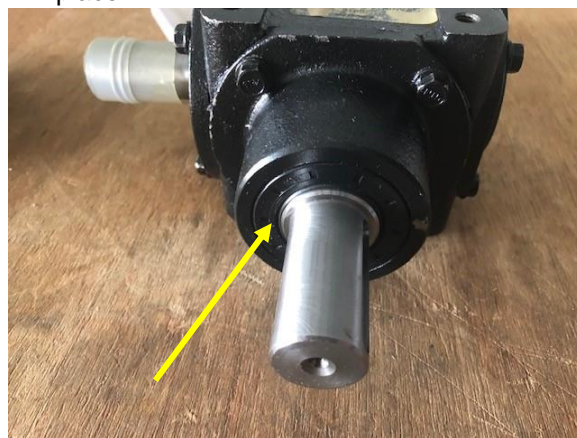

Figure 84
5. Use a seal puller to remove the seal from the neck of the gearbox. Figure 84